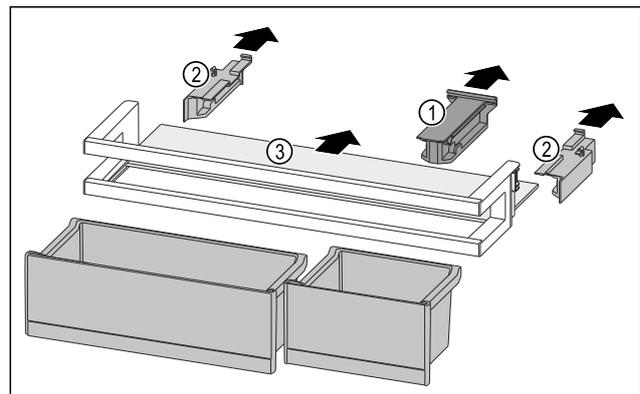

Fig. 140
- ▶ Pull off the holding part Fig. 140 (1).
- ▶ Pull off the side parts Fig. 140 (2).
- ▶ Remove the shelf Fig. 140 (3).